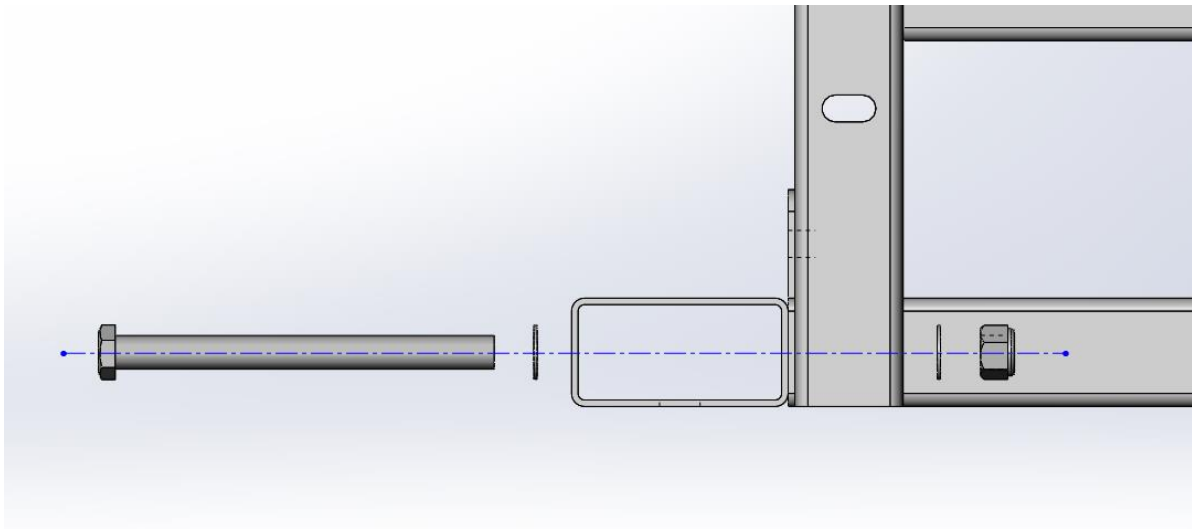

Figure 1
2. Fasten the base and upright together using 5/16 hex head cap screws, 5/16 flat washers, and 5/16-18 nyloc nuts as shown in figure 1.